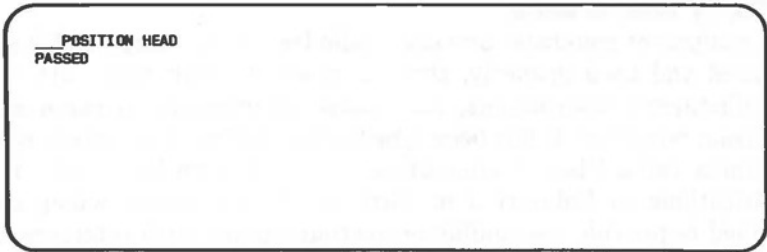

Figure 4-3 Fixed Disk Head Positioned Screen
3. When the head is positioned, the following message is displayed on your screen (see Figure 4-3):